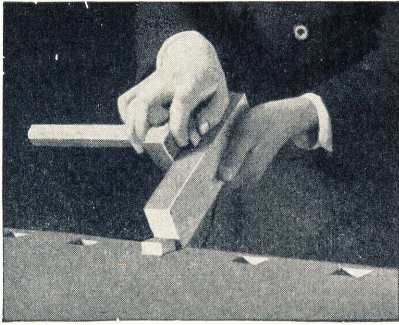

Fig. 19. Marking gauge in use.*
- d. Mark this face "number six" (Fig. 19)